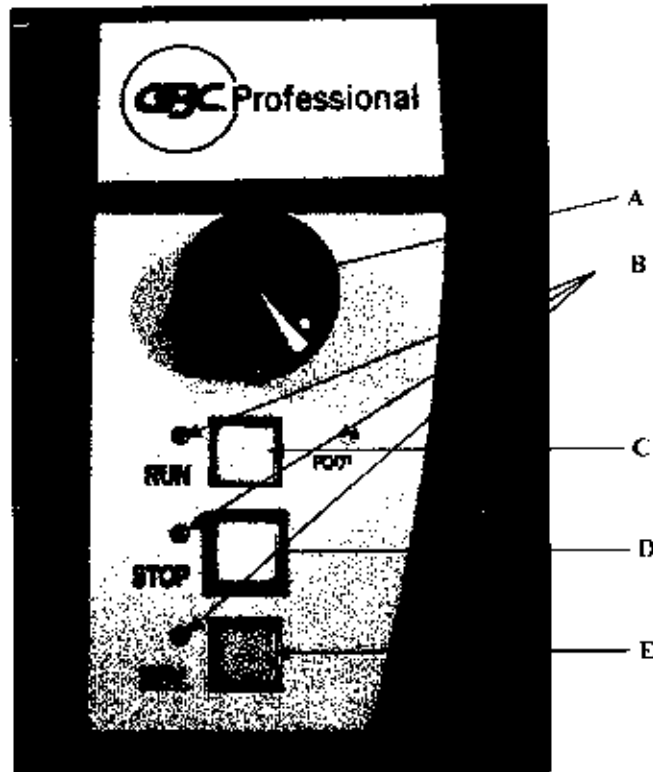

Fig. 6-1. Control Panel
- A. **SPEED ADJUSTMENT** (Figure 6-1)
1. Turn the laminator On (I) with the power switch located at the back of the machine.